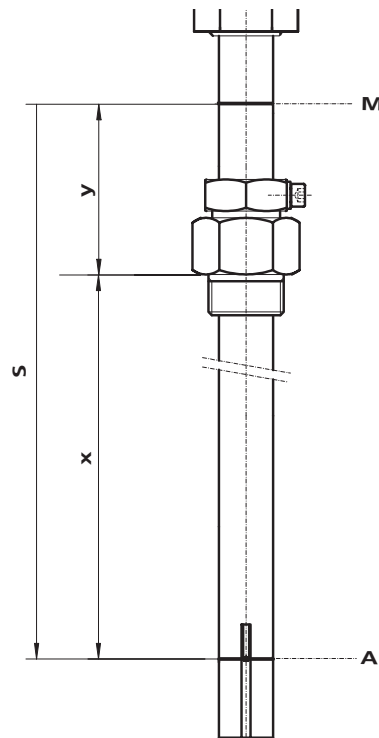
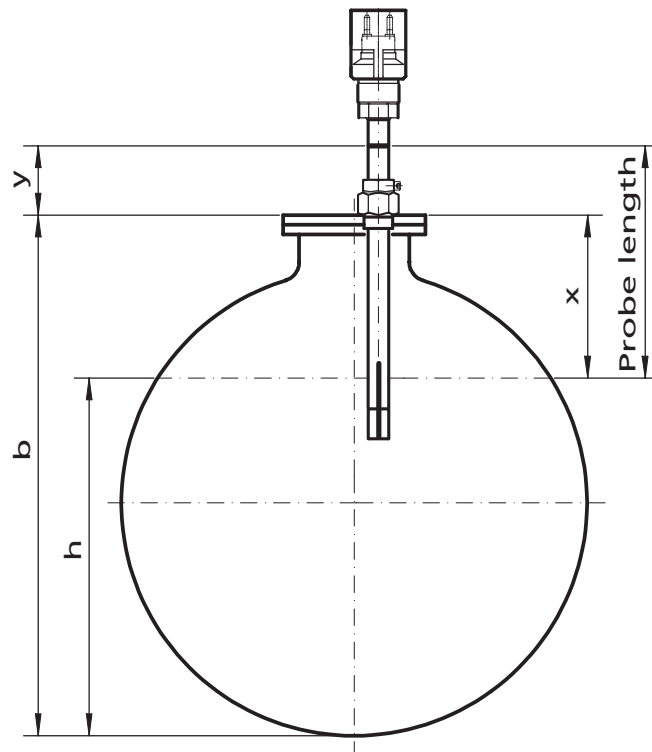

Fig. 3: Adjustment dimensions for overfill prevention sensors 83 UV and 84 UVT
Fig. 4: Adjustment dimensions for a standard tank
With the permissible filling degree of the respective tank, you define the threshold height (h) of the overflow prevention sensor (see Fig. 3).
Each probe length (Z) is permanently imprinted at the top end of the probe. The probe length is provided as a distance dimension between this mark (M) and the threshold point (A) of the overflow prevention sensor. (See Fig. 3)
In order to adjust the threshold length ( $x$ ) as the distance between the hexagon support of the screw-in unit and the threshold point at the bottom end of the sensor (see Fig. 3 and Fig. 4):